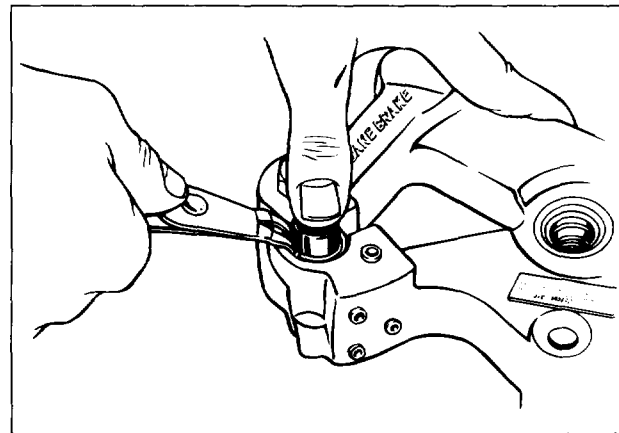

FIG. 3
1. Apply pressure on the control valve cover and rotate the retaining ring ears to the slot in the housing (see Fig. 3). Remove the retaining ring using retaining ring pliers.